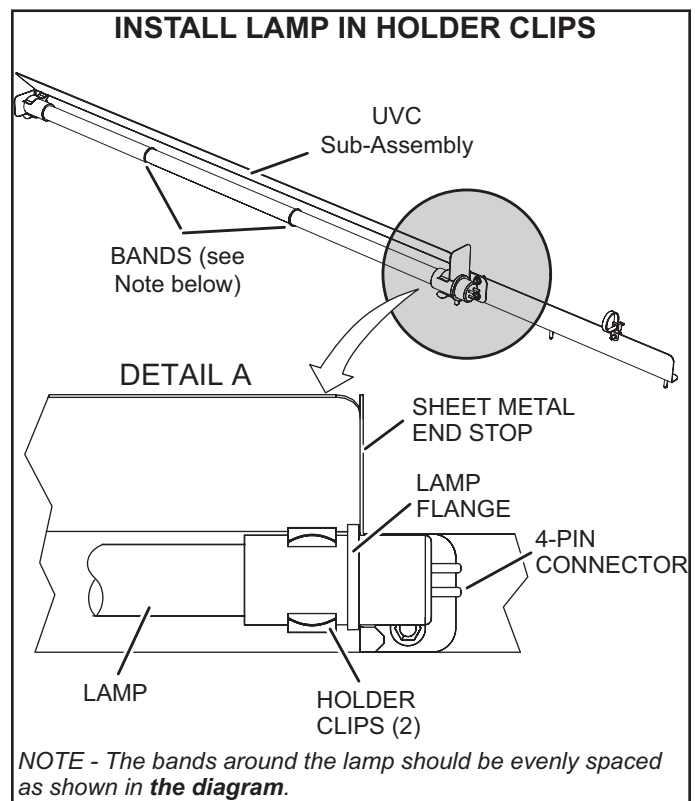

FIGURE 40
- 5 - Remove the (2) mounting screws of the UVC assembly. Carefully slide the complete UVC assembly out through the blower access door.
- 7 - Wear cotton gloves or use a cotton cloth when handling the new lamp. Place the new lamp in the holder clips of the UVC assembly. Verify that the lamp flange at the connector end is sandwiched between the lamp holder clip and the sheet-metal end stop (see FIGURE 40).